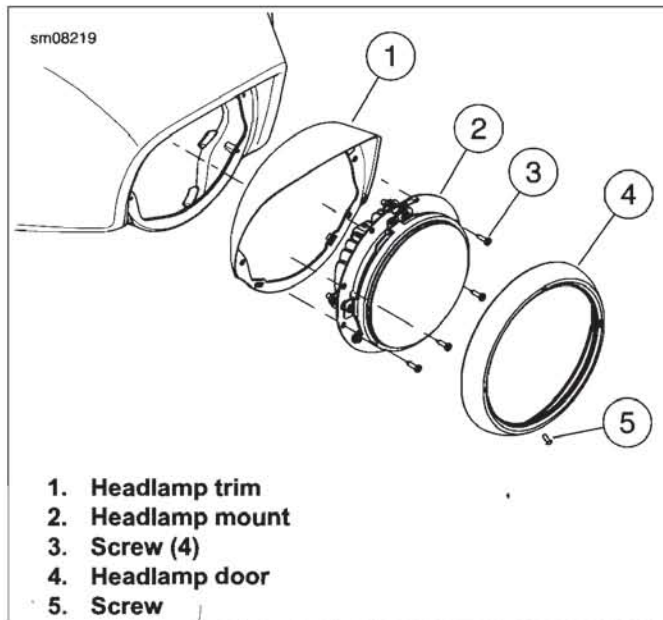

Figure 2-151. Headlamp Mount
1. See Figure 2-151. Remove headlamp door. If needed, remove headlamp from mount. See 7.9 HEADLAMP.